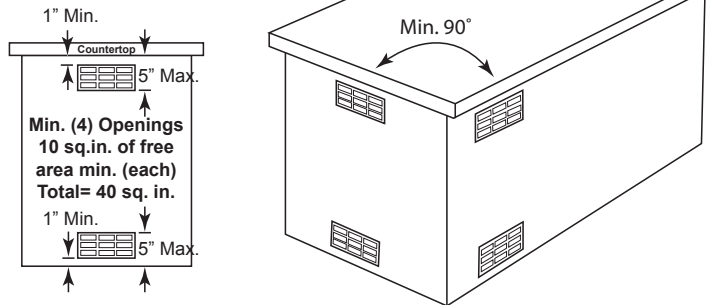

Figure 9
- Two openings must be in the side walls of the enclosure, at the top and spaced a minimum of 90° from each other. The openings must begin 1" or less below the countertop edge and end no more than 5" below the countertop edge. See Figure 9.
The clearance between the openings and any items outside of the enclosure is a minimum of 6". The clearance between the openings and any items within the enclosure is a minimum of 2". This provides free flowing air inside and outside the enclosure to keep the island cool during operation of the grill. See Figure 9.